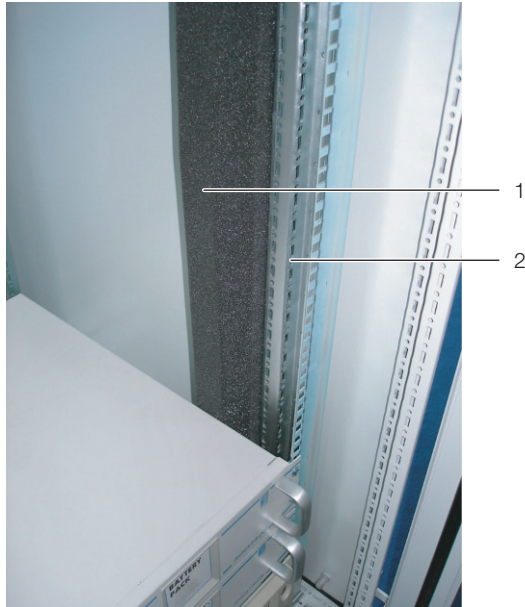

Fig. 10: Foam strip on a server rack upright
- Fasten the wider (Model No. 3301.370 / 3301.320) of the two foam strips from the LCP DX accessories onto one of the front uprights of the server rack from the outside (fig. 10). Make sure to install this strip on the side of the server enclosure onto which the LCP DX is to be bayed.
- **If you are only baying the LCP DX on one side:** Fasten the narrower (Model No. 3301.380 / 3301.390) of the two foam strips from the LCP DX accessories onto one of the front uprights of the server rack from the outside (fig. 10). Make sure to install this strip on the side of the server enclosure which will again be sealed by a side panel.